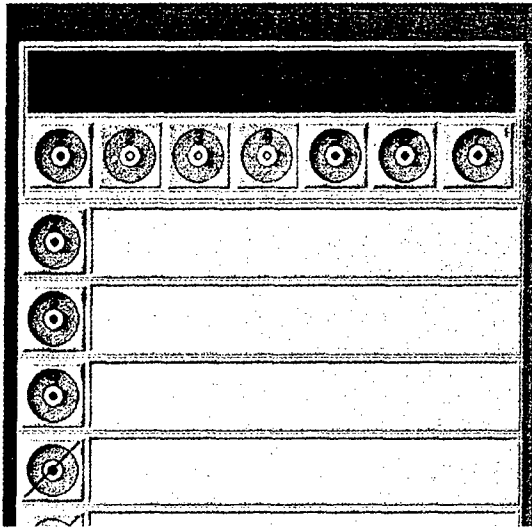

Fig. 81 — CD-ROM Site Window: three CD readers selected (#2,3,4)
- 3) Click (with left mouse button) on the CD device number(s) to be selected (1 through 7). As the user selects a device number, MMC will enter it in the list (Fig. 81).